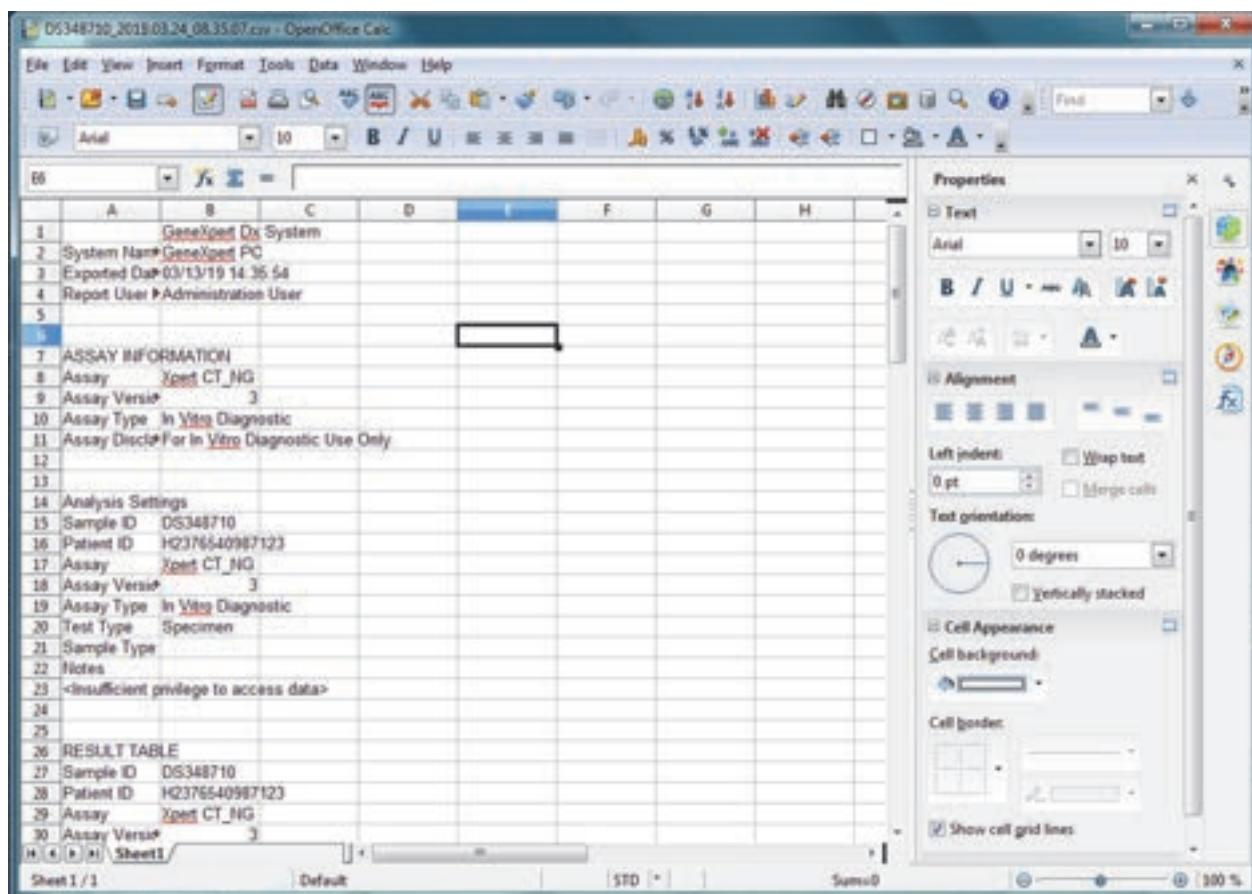

Figure 5-68. Example Exported Test Results
8. Click the checkbox to the left of **Default value**, and then click **OK** to close the dialog box. The column widths will then adjust and the file will be formatted, as shown in Figure 5-68. Click anywhere in the blank columns to “deselect” the blue cells and turn the cells white again.